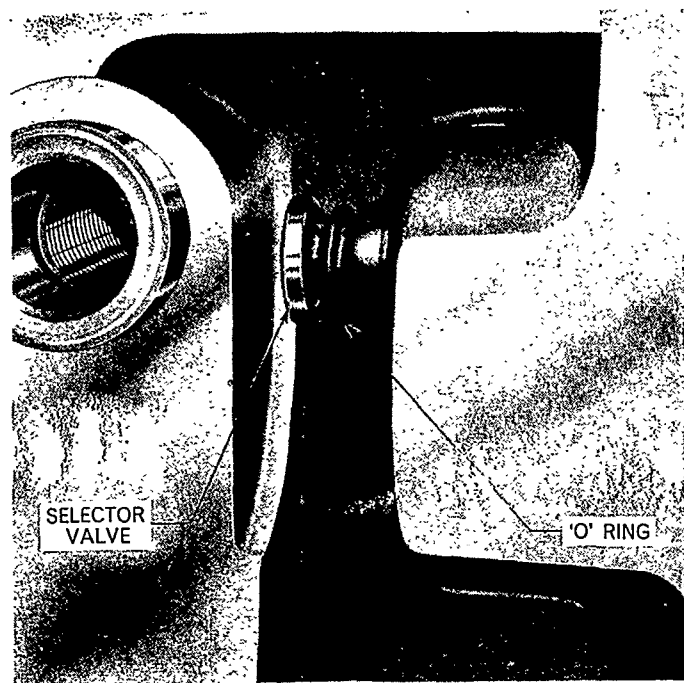

Figure 67
9. The selector control valve spool is held in position by a spring and ball. The ball seats in either one of the two detents at the end of the spool giving the 'in' and 'out' positions. The sharp radius at the extreme end of the spool prevents it from being withdrawn from the lift cylinder. The selector control valve spool can be removed by pushing the valve fully in and installing a suitable size 'O' ring on the end detent of the spool. As the spool is pulled outwards the 'O' ring will lift the ball over the sharp radius, Figure 67.